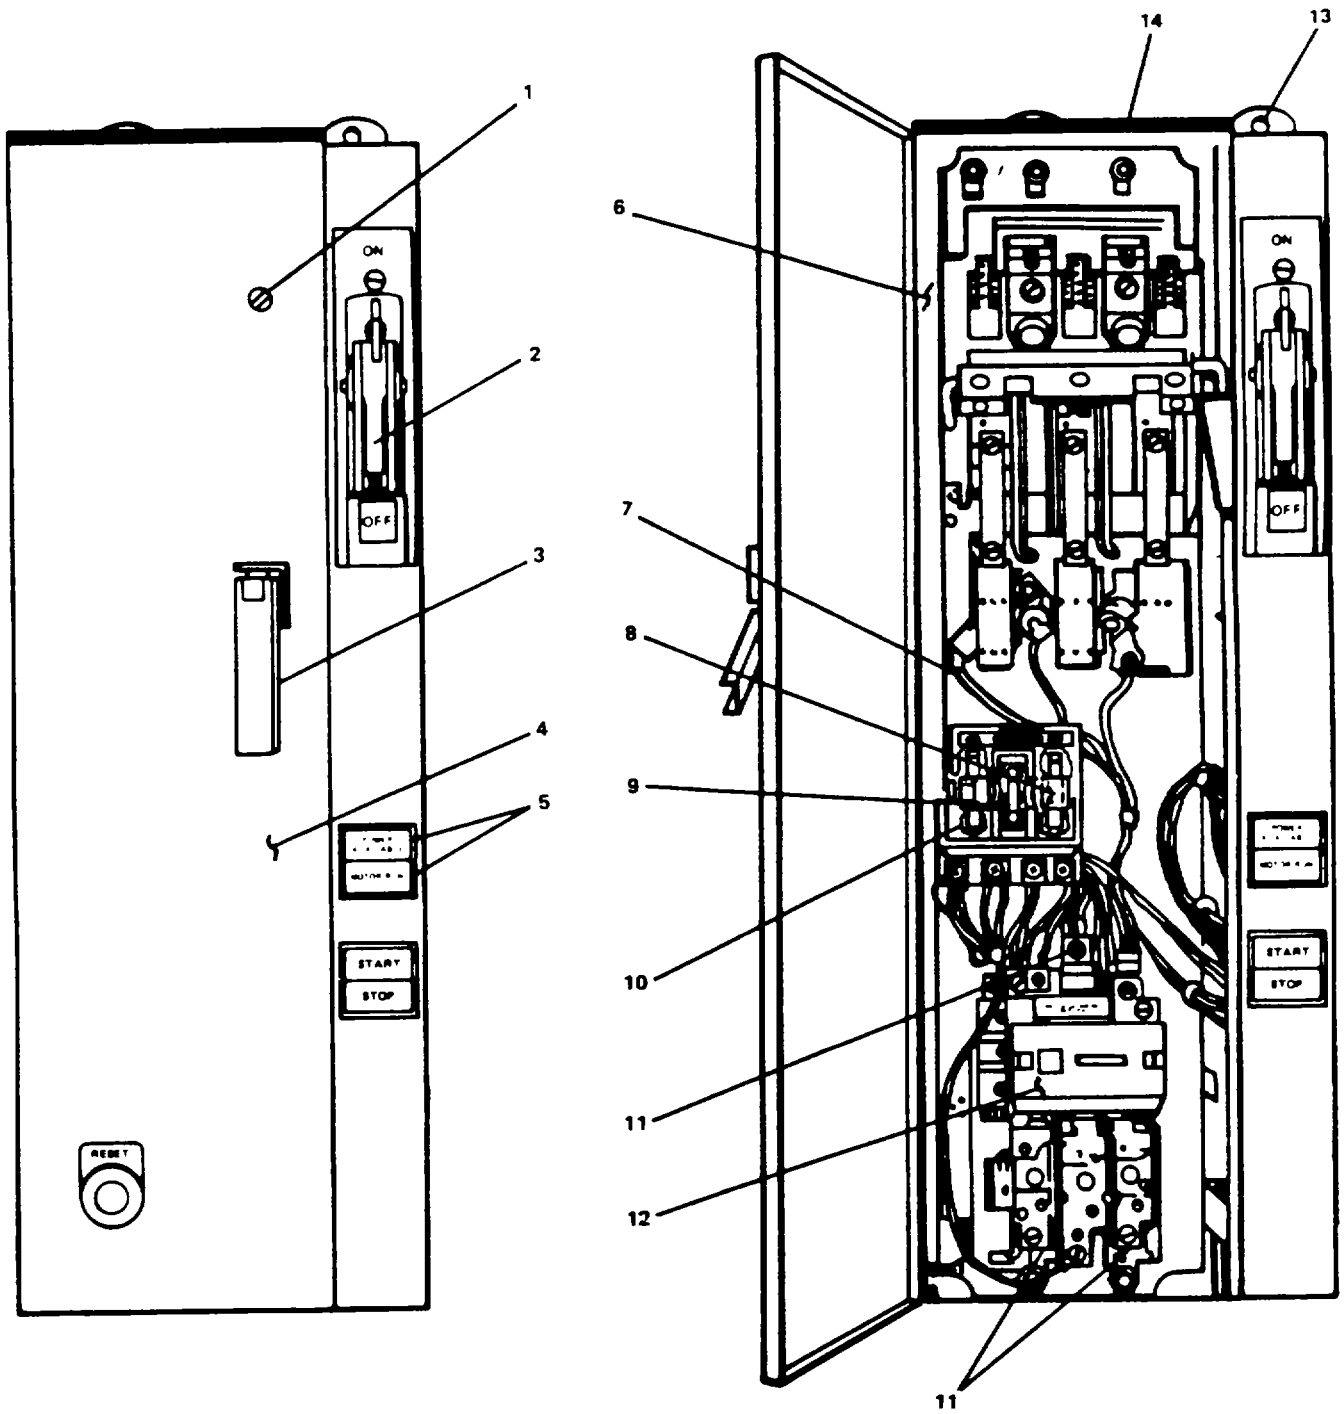

Figure 2-75. Motor Controller (Typical).
- a. Remove lens cover (5, Figure 2-75)